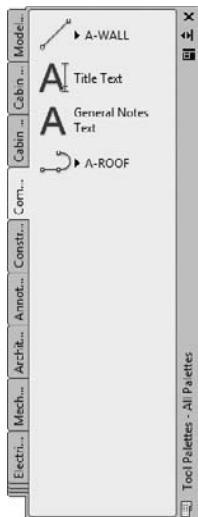

FIGURE 11.34 The Commands palette with four command icons
6. Repeat the process outlined in steps 4 through 6 to drag several additional objects of various kinds onto the Commands palette (see Figure 11.34).